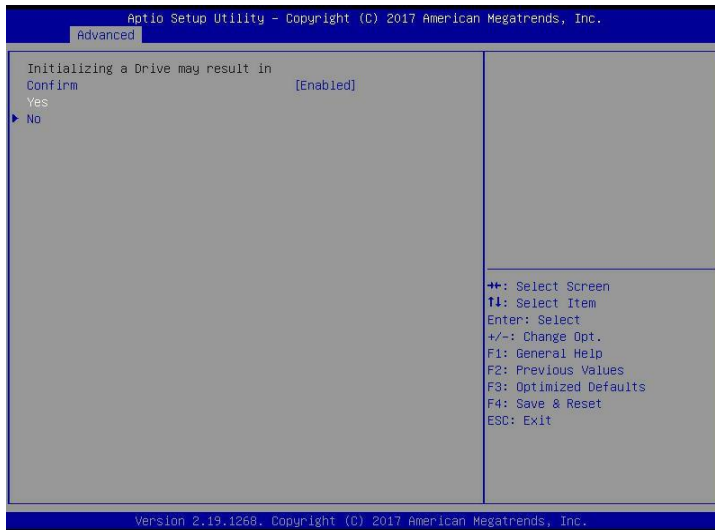

Figure 6-75
e) Enter the interface shown in Figure 6-75, select Confirm to enable it, select Yes, and press Enter.
✧ Figure 6-75 Confirm initialization